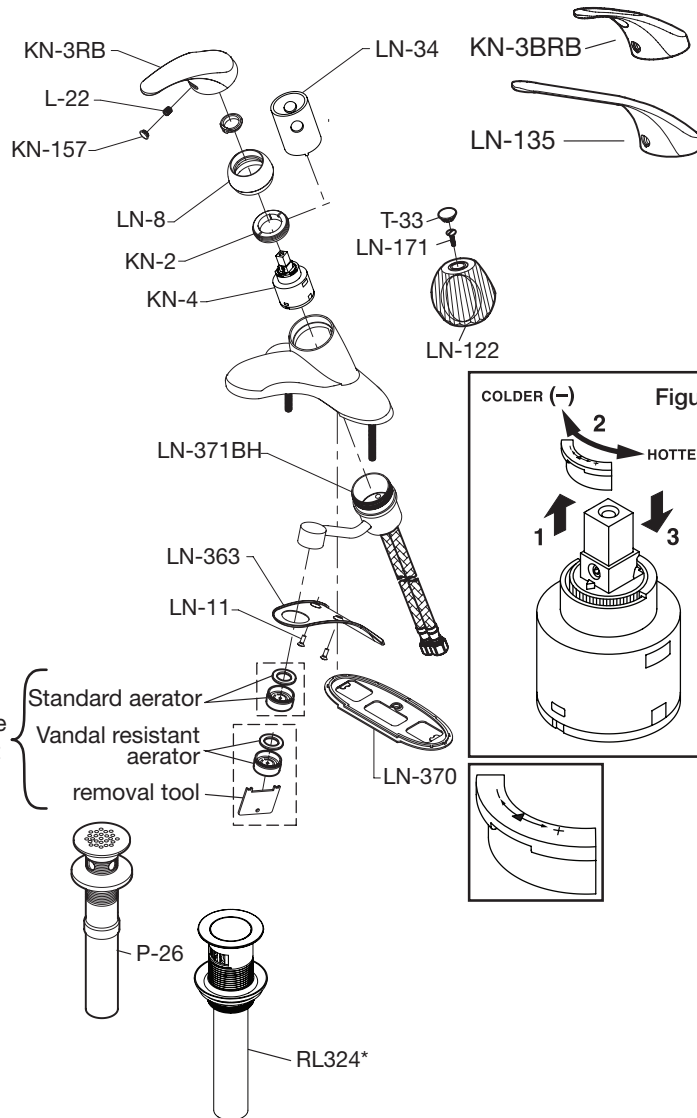

Figure 1
3. **Push Pop Install:** Insert drain body (L) into drain opening. From below, Tighten locking nut (O) with gasket (M) and washer (N) to flange. Tighten tail nut (Y) with washer (X) to secure tail pipe (Q). **DO NOT** overtighten.
6. If when faucet is on and in full hot position and water is too hot, shut off water, remove plug button (KN-157), loosen set screw (L-22) and remove handle (KN-3RB, KN-3BRB or LN-135) or plug button (T-33), screw (LN-171), and handle (LN-122). Lift limit stop ring using a small flat head screw driver and rotate clockwise to lower temperature. If water is not hot enough, rotate counter clockwise (See Figure 1 on reverse side). After correct temperature is achieved, reattach handle, reversing procedure above.